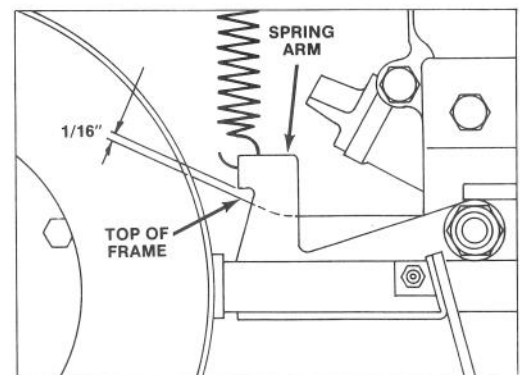

Figure 4
3. CHECK ADJUSTMENT — When blade control is squeezed against handle, distance between top of wheel frame and bottom of spring arm must be $1/16"$ (Fig. 4). If adjustment is correct, go to step 4. If adjustment is required, remove ball joint from pivot lever and go to step 3A or 3B.